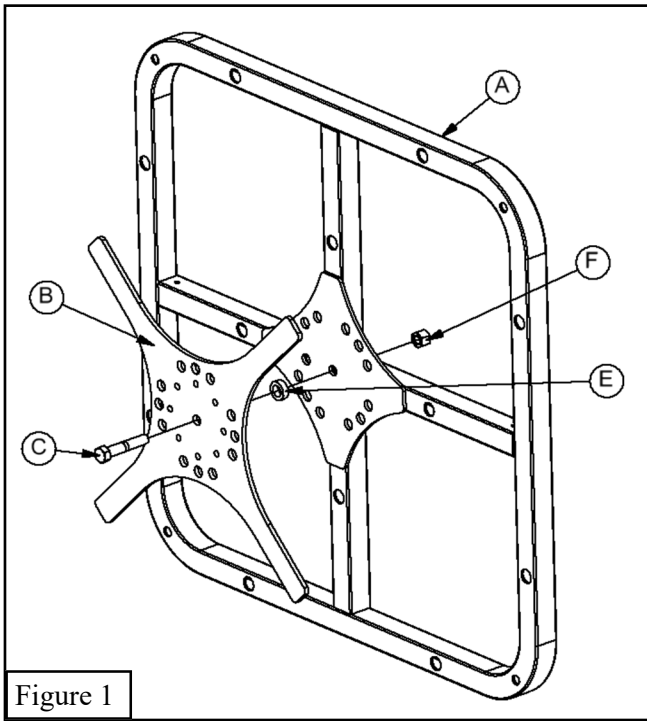

Figure 1
1. Assemble *Lock Plate* (B) to *Cart End* (A) using a *3/8" X 2" Hex Bolt* (C) through the center hole, the *Nylon Spacer* (E) between the *Lock Plate* (B) and the *Cart End* (A), and a *3/8" Lock Nut* (F). Tighten so the *Lock Plate* (B) can rotate easily but with some resistance so it stays in position when rotated. See Figure 1.